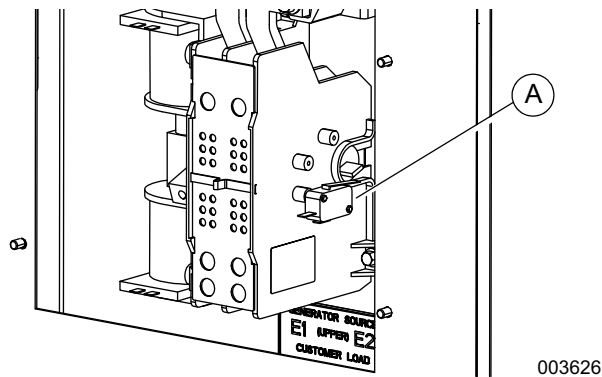

Figure 3-3. Auxiliary Contact
See Figure 3-3. If desired, there is one normally-closed Auxiliary Contact (A) on the transfer switch to operate customer accessories, remote advisory lights, or remote annunciator devices. A suitable power source must be connected to the common terminal. If needed, an extra auxiliary contact can be added.